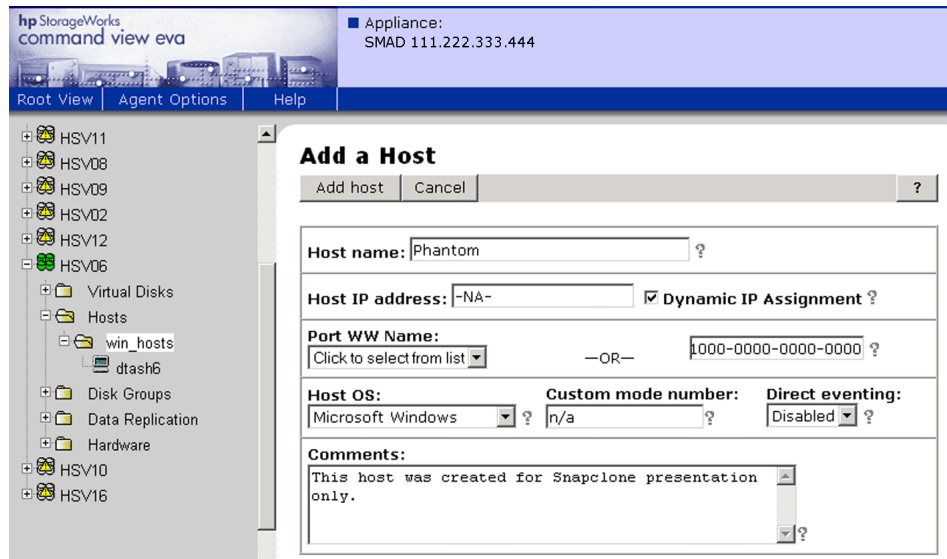

Figure 64: Add a Host page
- 2) Click the **Add host** tab. The Add a Host page is displayed (Figure 64).